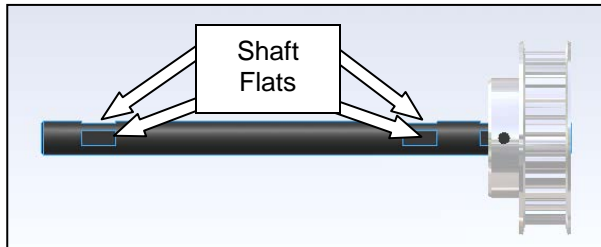

Figure 3-165. Transfer Shaft
14. Once pulleys are aligned, tighten the set screws to locate the pulley(s) on the transfer shaft. The shaft has 2 flat areas 90° apart for the set screws to seat on. **Be sure the set screws are tightened onto the flat areas of the transfer shaft** (Figure 3-165).